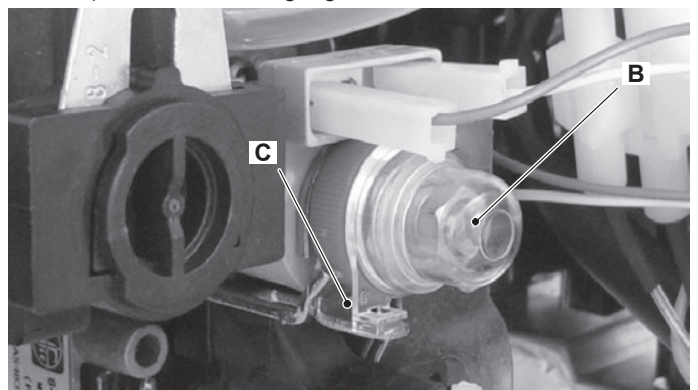

Figure 11.3
- 5 Remove the protection cap B (Figure 11.3) from the mechanical pressure adjustment components levering with a flat screwdriver in the slots C.